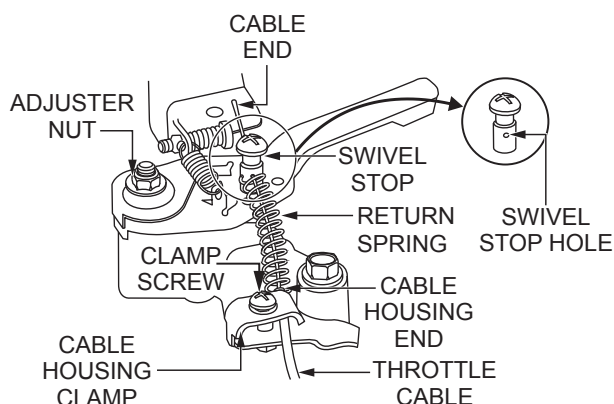

Figure 11. Throttle Cable Installation
- Loosen the cable housing clamp screw and the swivel stop screw (Figure 11).
- Place the primary throttle return spring between the cable housing clamp and the swivel stop screw (Figure 11).
- Feed the cable assembly through the cable housing clamp, return spring, and swivel stop hole, until the cable housing extends under the housing clamp to its far edge (Figure 11).